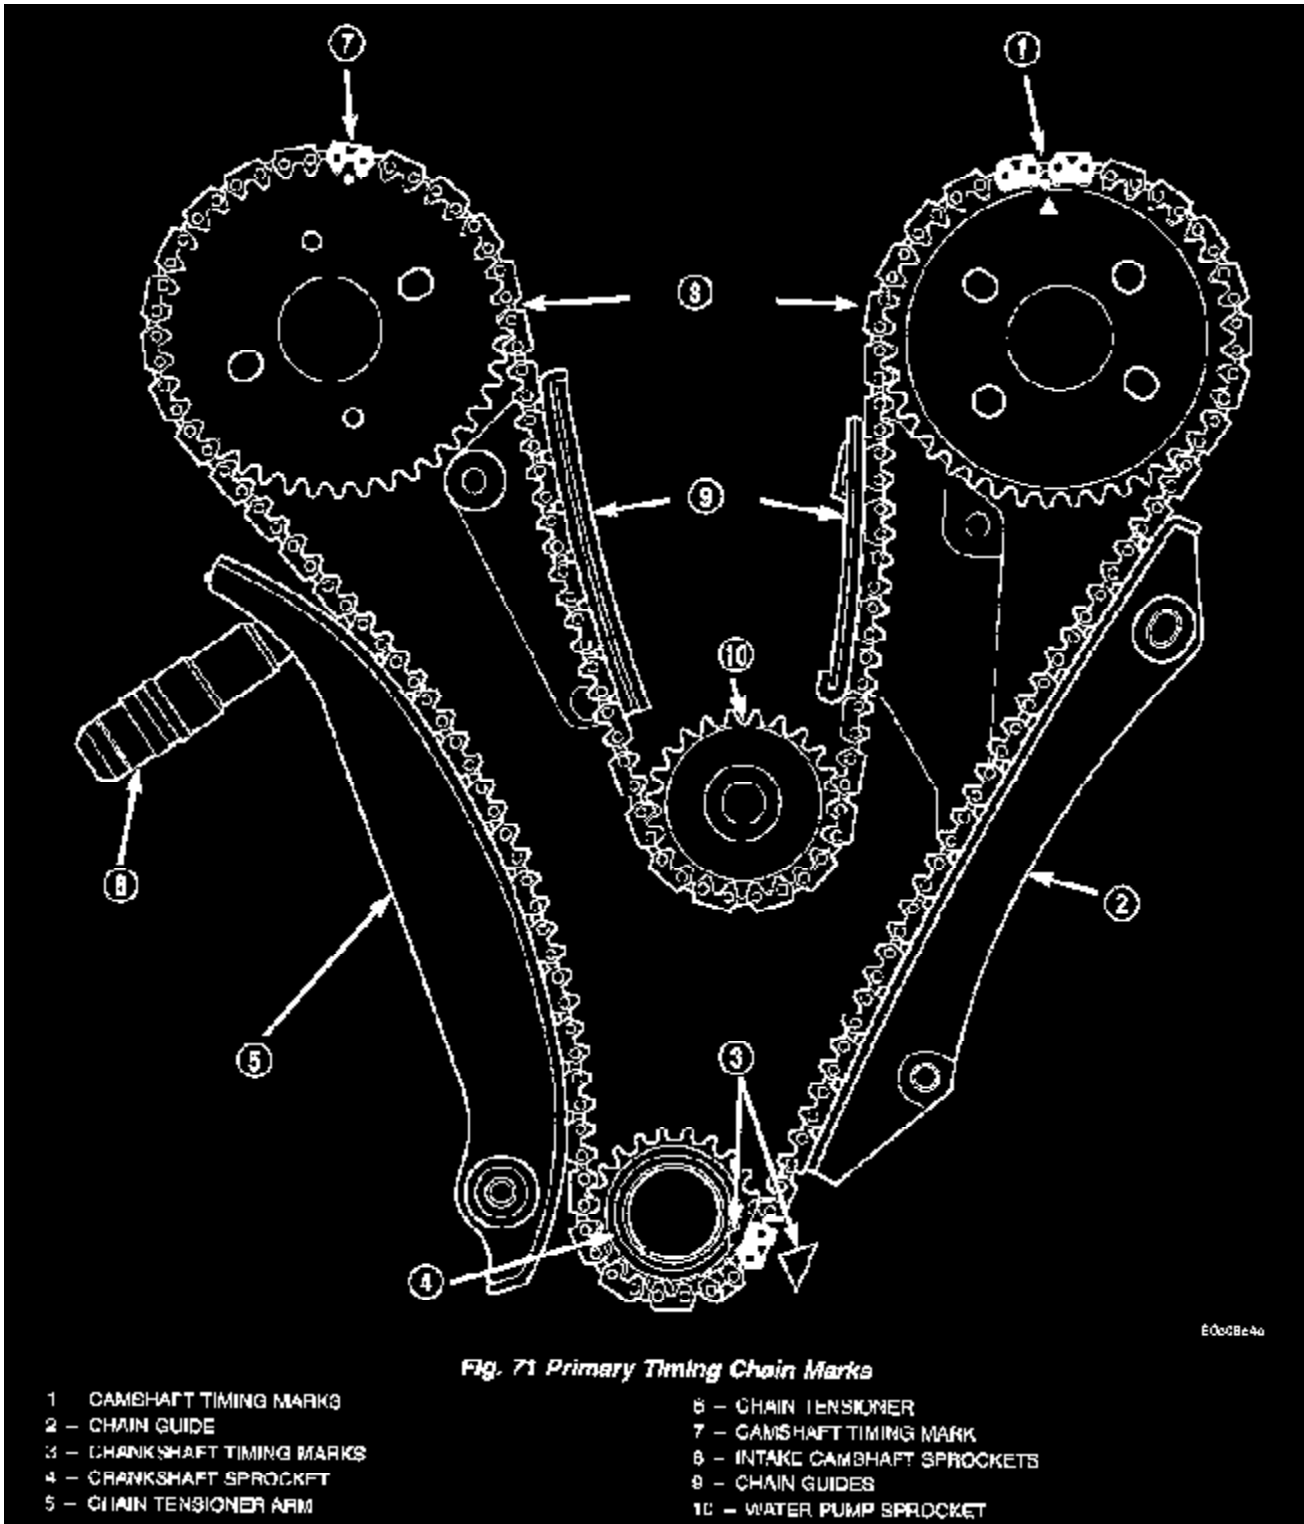

Fig. 71
- Align crankshaft sprocket timing mark to the mark on oil pump housing (Fig. 71).
- Place left side primary chain sprocket onto the chain so that the timing mark is located in-between the two (plated) timing links (Fig. 71).
7. Align timing (plated) link to the crankshaft sprocket timing mark (Fig. 71).
9. Align right camshaft sprocket timing mark to the timing (plated) link on the timing chain (Fig. 71) and loosely position over camshaft hub.
10. Verify that all chain timing (plated) links are properly aligned to the timing marks on all sprockets (Fig. 71).
17. Starting at the right cylinder bank, insert a 3/8" square drive extension with a breaker bar into intake camshaft drive hub. Rotate camshaft until the camshaft hub aligns to the camshaft sprocket and damper attaching holes. Install the sprocket attaching bolts and tighten to **28 Nm (250 in. lbs.)** (Fig. 71).
18. Turn the left side camshaft by inserting a 3/8" square drive extension with a breaker bar into intake camshaft drive hub and rotate camshaft until the sprocket attaching bolts can be installed. Tighten sprocket bolts to **28 Nm (250 in. lbs.)** (Fig. 71).